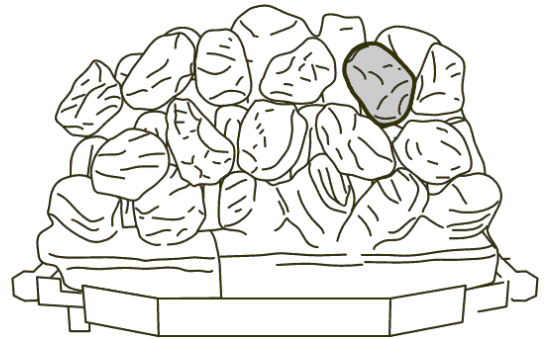

Figure 43. Third row "Coal L"
16. Hold coal 'L' upright with the arrow pointing to the top. Locate coal 'L' as shown in figure 43.